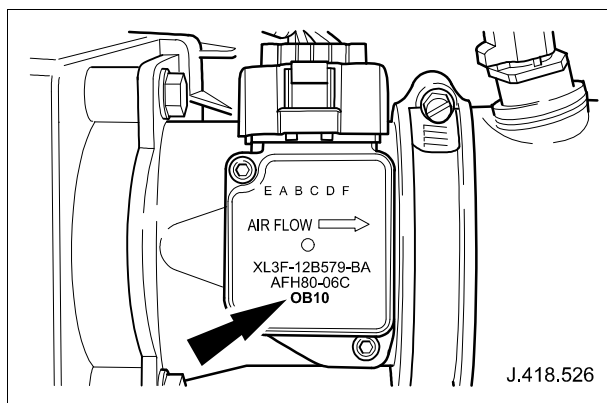

Fig. 13
- 4.1 Record the Mass Air Flow (MAF) Sensor date stamp code, as shown in Fig. 13.